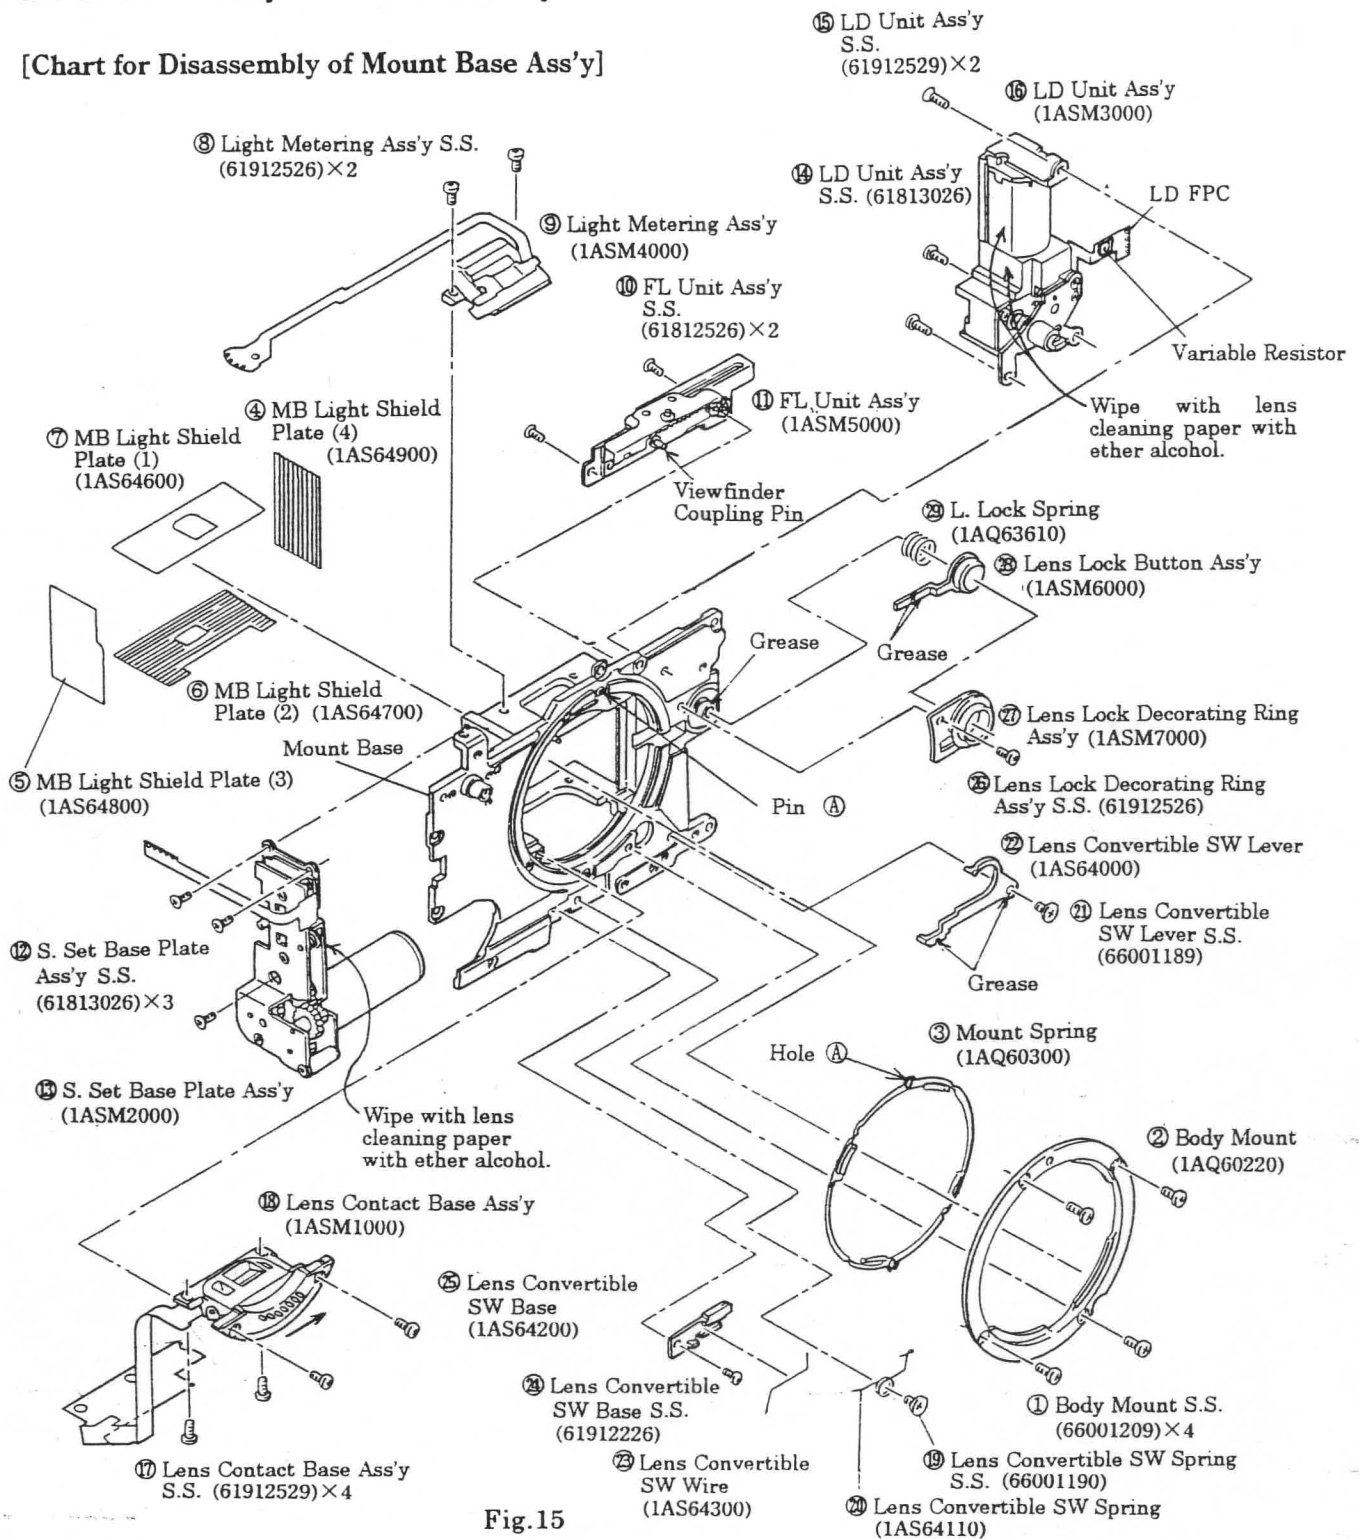

Fig.15
- 1) Remove parts in the numerical order of ① to ⑨ shown in Fig. 15.
- 3) Remove parts in the numerical order of ⑩ to ㉚ shown in Fig. 15.
- Do not use any of the MB Light Shield Plate (1) (1AS64600), MB Light Shield Plate (2) (1AS64700), MB Light Shield Plate (3) (1AS64800) and MB Light Shield Plate (4) (1AS64900) that have been peeled off once, since their adhesive strength is weak.
- Be sure to apply Grease (LOGENEST LAMBDA A-74) to the specified positions. (See Fig. 15)
- a) When installing the Lens Contact Base Ass'y (1ASM1000), push it in the direction of the arrow as shown in Fig. 15 and tighten the Lens Contact Base Ass'y Setscrews (61912529) \times 4.